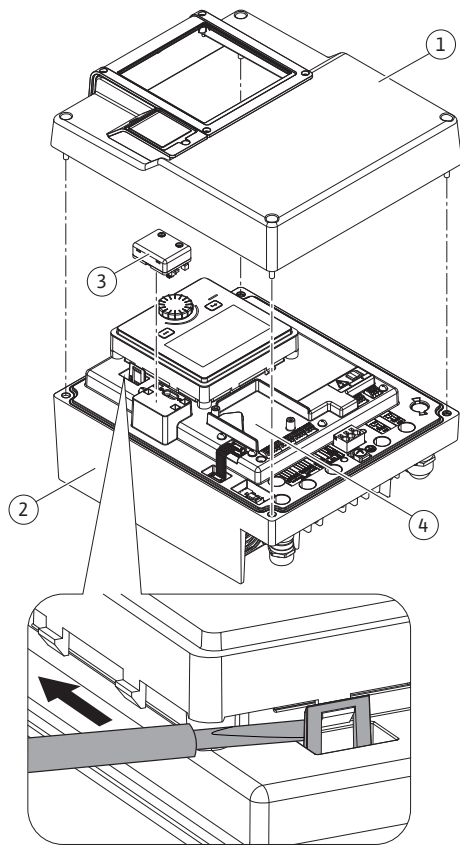
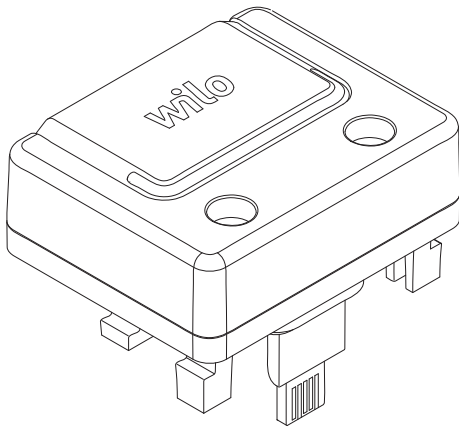

Fig. 26: Electronic module
Fig. 27: Wilo-Smart Connect module BT
The Bluetooth interface Wilo-Smart Connect module BT (Fig. 26, Item 3, and Fig. 27) is used to connect to mobile end devices such as smartphones and tablets. The Wilo-Smart Connect feature is in the Wilo-Assistant app. Using the Wilo-Smart Connect feature, you can operate and adjust the pump and read out pump data. For settings, see “Commissioning” [► 48] section.
1. Loosen four screws of the upper part of the electronic module (Fig. 26, Item 1; Fig. I, Item 2).
3. Insert the Wilo-Smart Connect module BT into the designated interface Wilo-Connectivity Interface. See Fig. 26, Item 3.
CIF modules (accessories) are used for communication between pumps and building management systems. CIF modules are plugged into the electronic module (Fig. 26, Item 4)